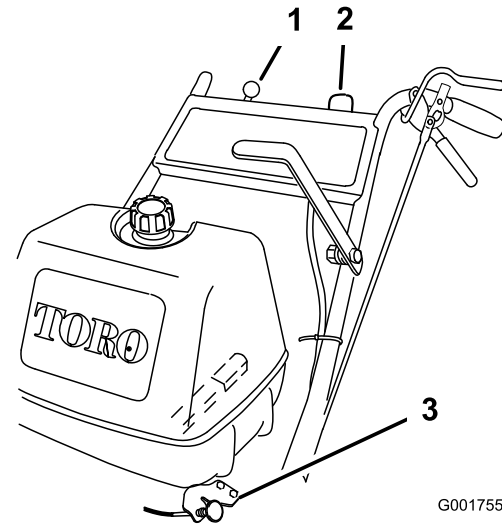

Figure 7
5. Turn the ignition key to the **run** position (Figure 7).
8. Pull the choke knob if the engine is cold (Figure 7).